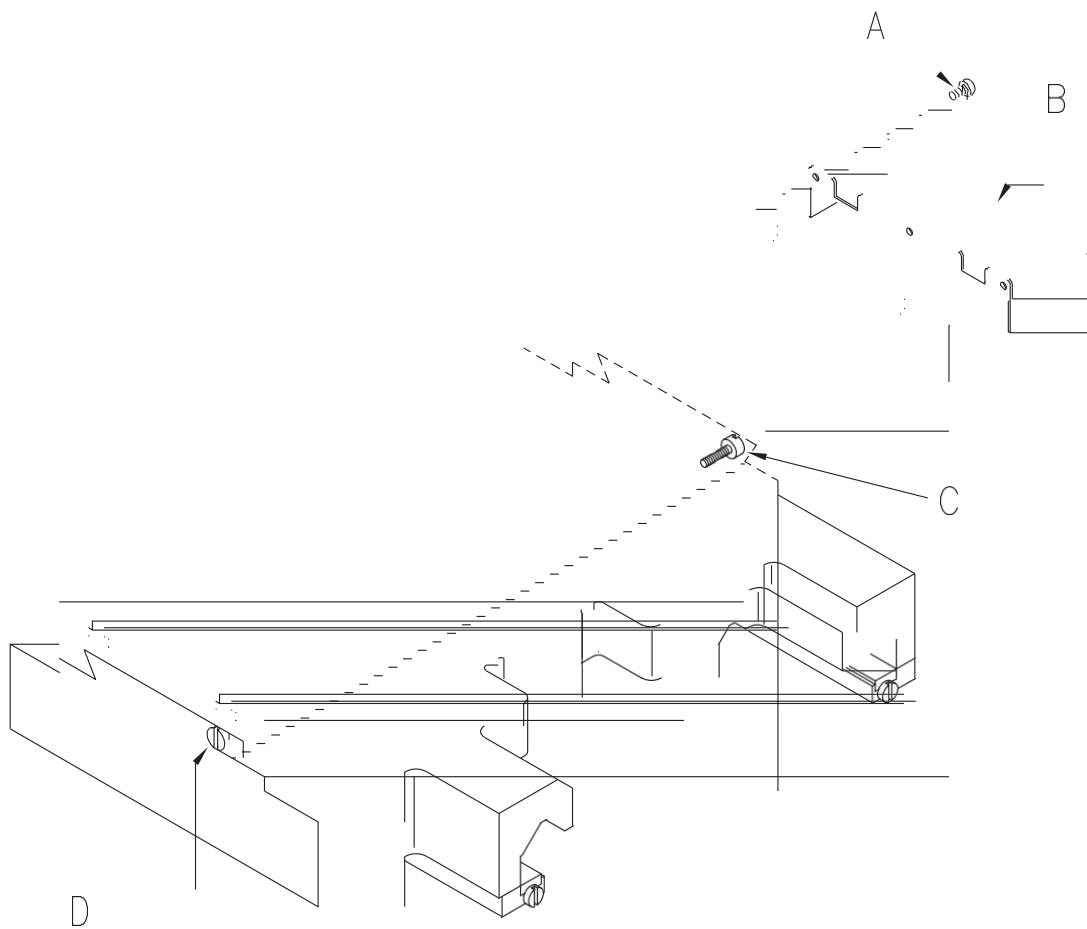

Figure 12
2. Remove slide cover "B" as shown in Figure 12 then the gibs can be seen.